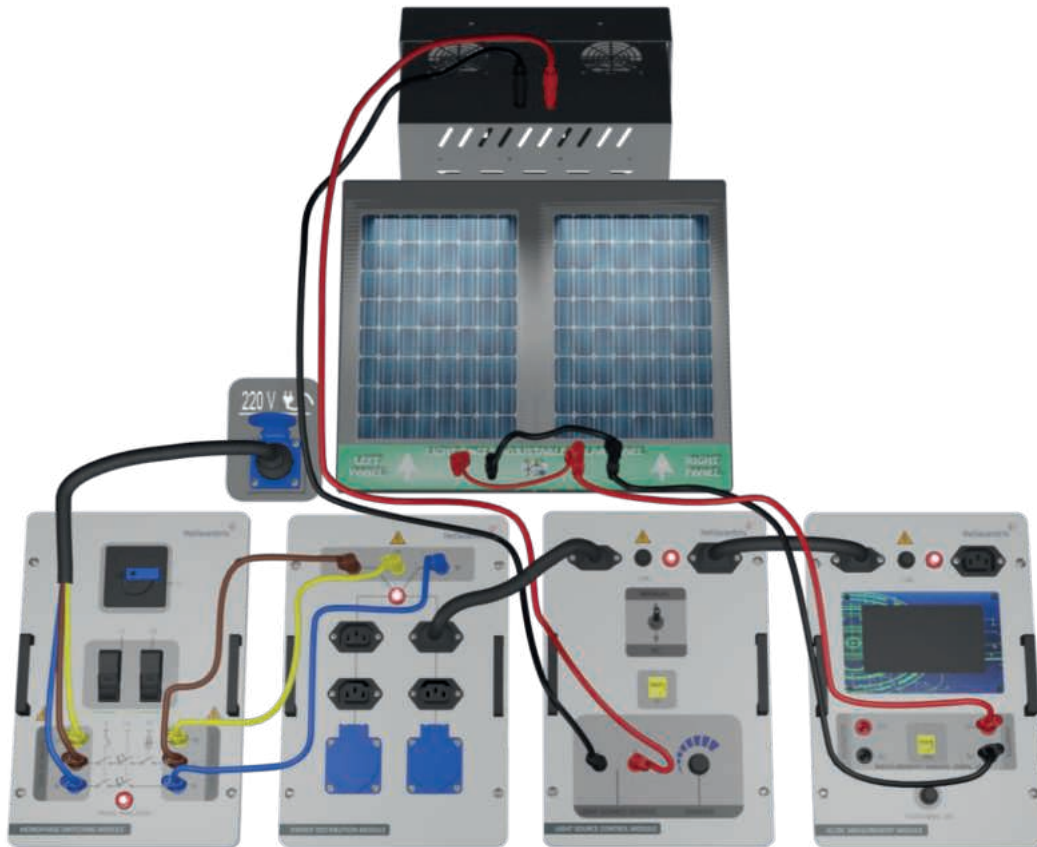

Figure-45. Installation Image of Examination of the Parallel Connection of Photovoltaic Panel
1. Set up the connection as specified in Figure-45. Ensure a constant level of light in the laboratory by creating an average scenario. Any alterations to the positions of the lamps or curtains will have an impact on the experimental outcomes.